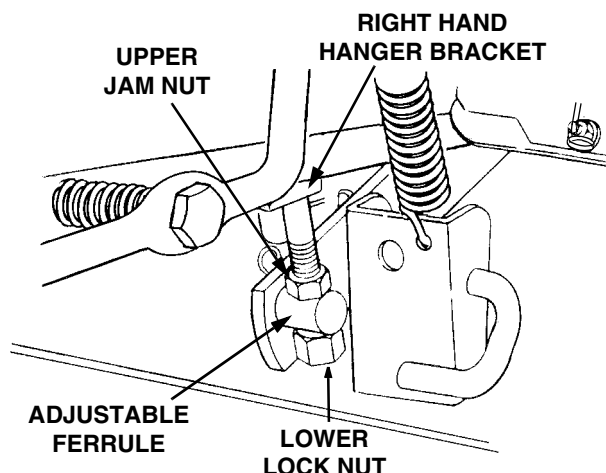

Figure 58
7. Side-to-side leveling is obtained utilizing the adjustment ferrule and right hand hanger bracket (Refer to Figure 58).
8. Loosen the upper jam nut on the hanger bracket and turn away from the adjustment ferrule. Turn the lower lock nut upward (tighten) on the threads of the hanger bracket to raise the right side of the mower deck. Turn the lock nut down (loosen) on the threads to lower the right side of the mower deck (Refer to Figure 58).